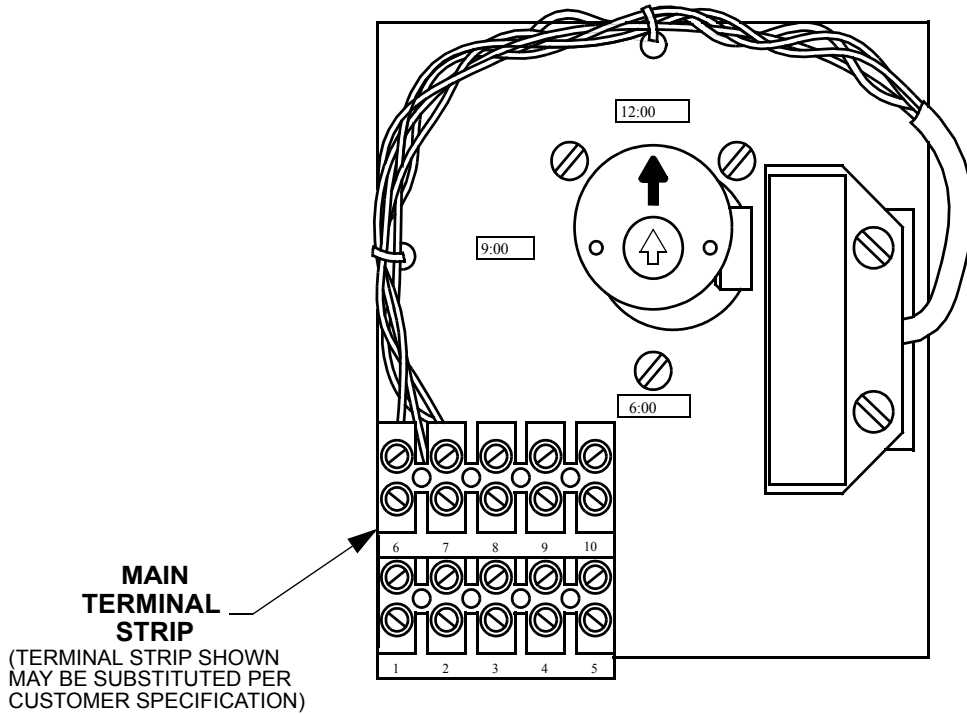

Figure 1
1. The Spectrum 4-20 mA transmitter is preset at the factory. There is an arrow indicator above the top cam to show the direction of the current output. The 4 mA output is located at 12 o'clock. The 20 mA output is located at 3 o'clock, 90 degrees clockwise from the 4 mA position. Note: The transmitter can only operate between the 12 and 3 o'clock positions with minimal overtravel in each direction. (See Figure 1)
4. Adjust the 4mA and 20mA outputs to the desired ends of travel of the valve. The 4 mA output is adjusted with the #1 potentiometer (zero adjustment) as shown in Figure 1. The 20mA output is adjusted with the #2 potentiometer (span adjustment), also shown in Figure 1.